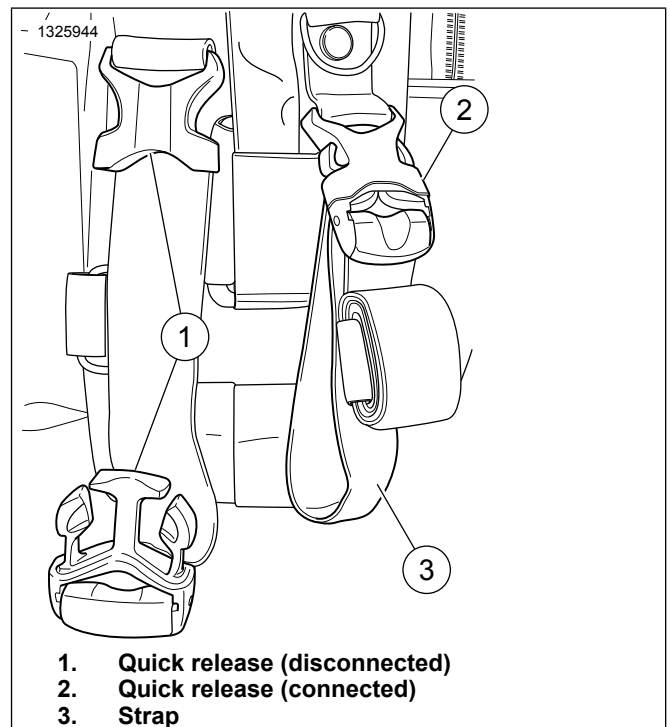

Figure 4. Quick Release Buckle
1. See Figure 4. Disconnect quick release buckles and clasps.